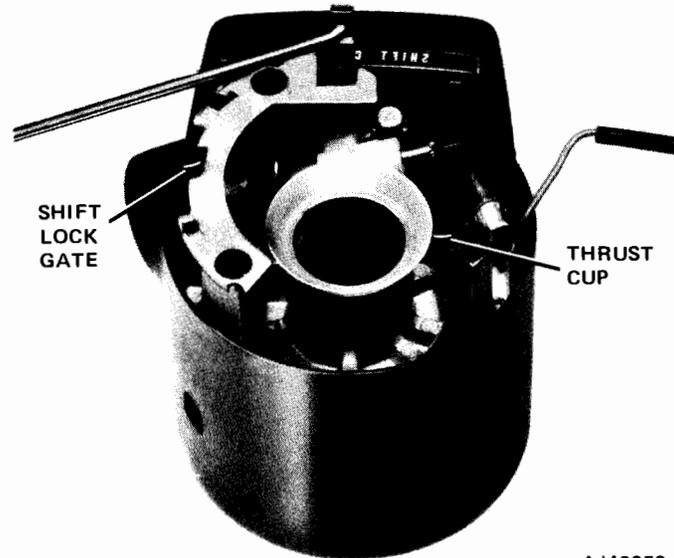

Fig. 11-30 Thrust Cup Position
(20) Remove four upper housing attaching screws and remove upper housing. Remote lock rod and automatic column shift quadrant light wire (if equipped) will be removed with upper housing.
(21) Remove thrust cup from upper housing (fig. 11-30).
- (9) Install nylon thrust cup in upper housing with flared end facing out (fig. 11-30).